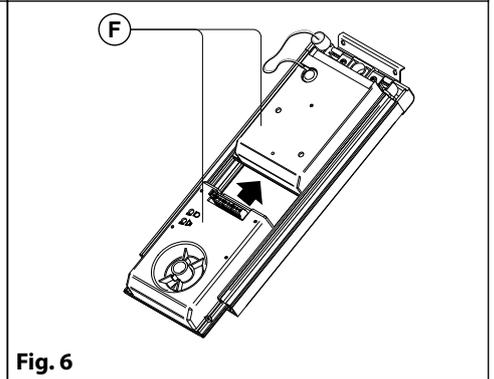

Fig. 6
6. Insert the modules **F (Fig. 6)** according the required configuration;